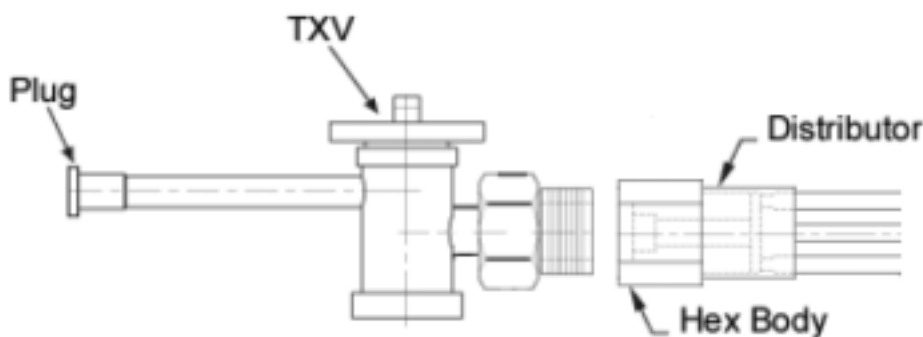

Figure 1
10. Attach the TXV inlet tubing to liquid line, replace the liquid line filter drier, and with nitrogen flowing through the refrigerant lines, braze connections. After brazing, allow joint to cool before continuing. Once cooled, attach the TXV outlet hex nut to the distributor. Use a backup wrench to prevent damage to the tubing (See Figure 1).